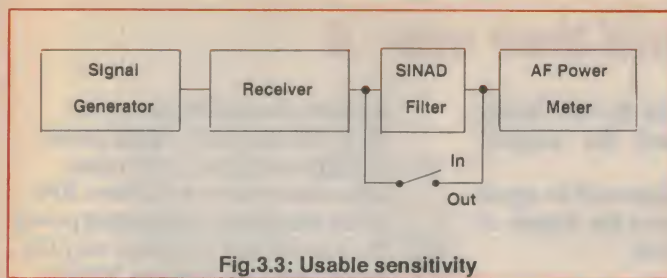

Fig.3.3: Usable sensitivity
- i) Connect the equipment as shown in Fig.3.3.